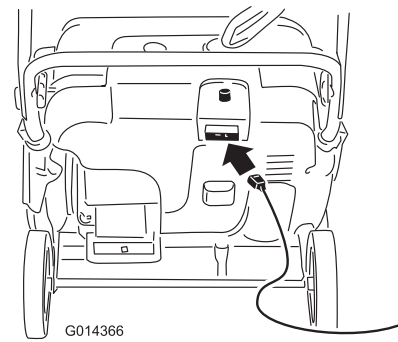
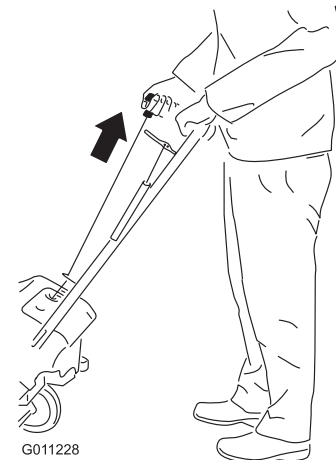

Figure 17
Figure 18
4. Connect an extension cord to a power source and the machine, and push the electric-start button (Model 38742 only) (Figure 17), or pull the recoil-start handle (Figure 18).